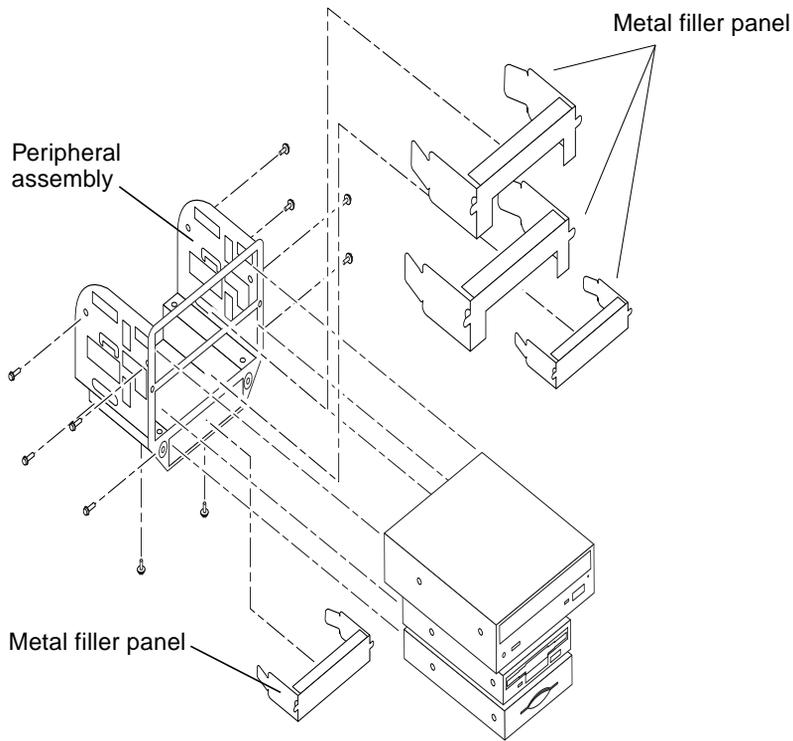

FIGURE 6-19 Removing and Replacing Metal Filler Panels
4. Remove the metal filler panel from the peripheral assembly (FIGURE 6-19).
1. **Position and snap the metal filler panel into the peripheral assembly (FIGURE 6-19).**